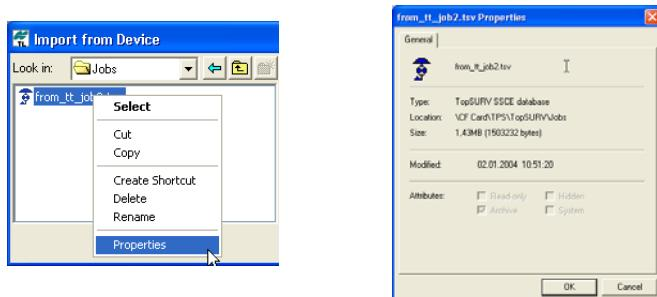

Figure 2-17. TopSURV File Properties
5. Select the folder where the (*.tsv) file(s) is saved in the TPS Controller. To view file properties (Figure 2-17), right-click on the file and select *Properties* on the pop-up menu.